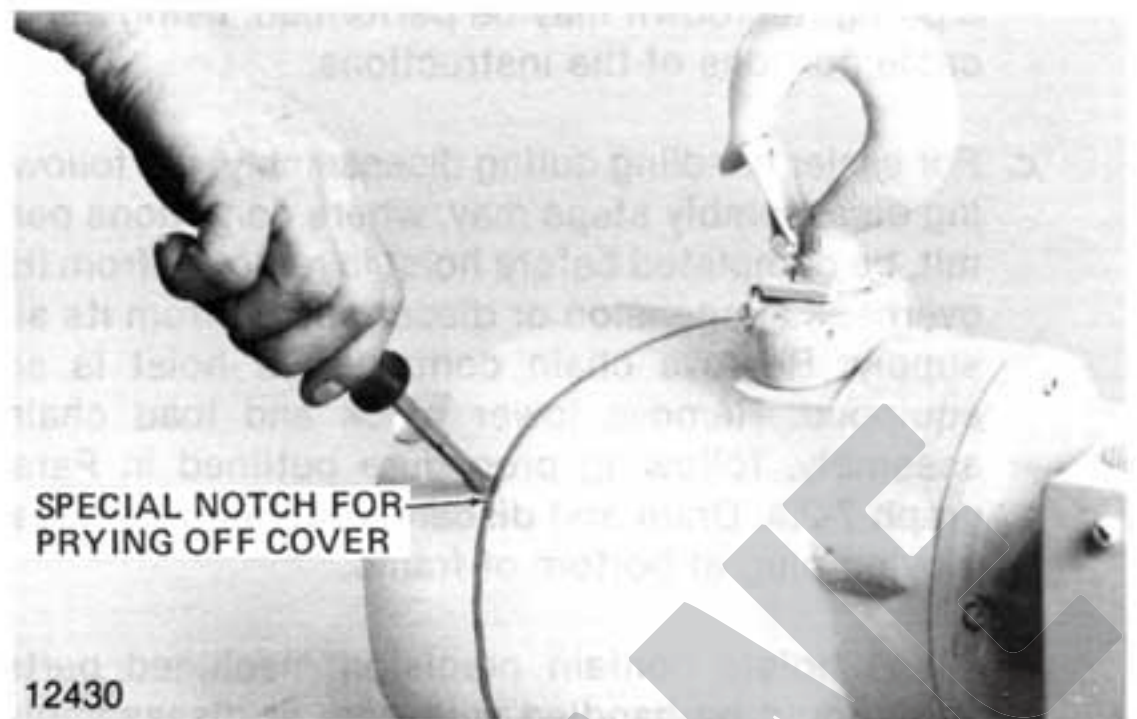
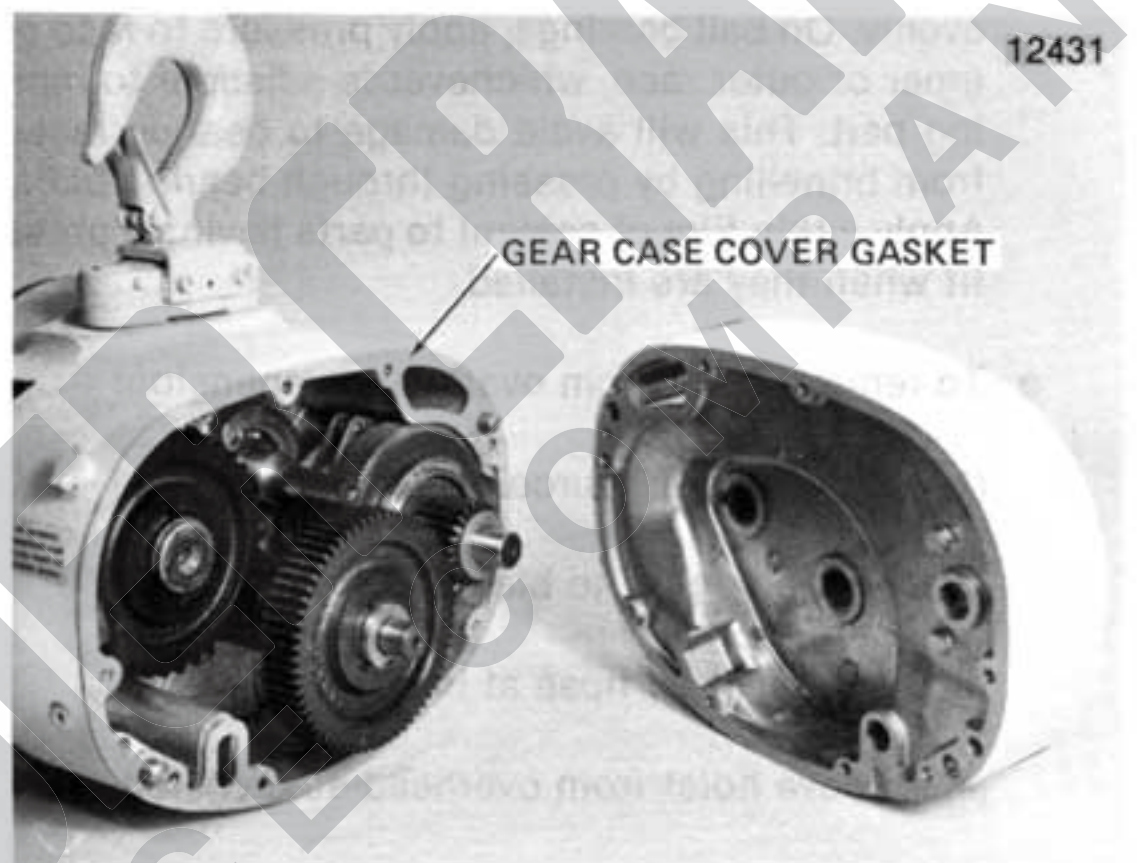

Figure 7-4. Prying Gearcase Cover From Hoist Frame.
Figure 7-5. Gearcase Cover Removed From Frame.
- (2) Remove eight hex socket head screws and lockwashers securing gearcase cover to hoist frame. Pry gearcase cover off hoist frame using screwdriver at special notches provided at opposite corners of cover (Figure 7-4). Gearcase cover can now be lifted from frame (Figure 7-5). Discard gearcase cover gasket.